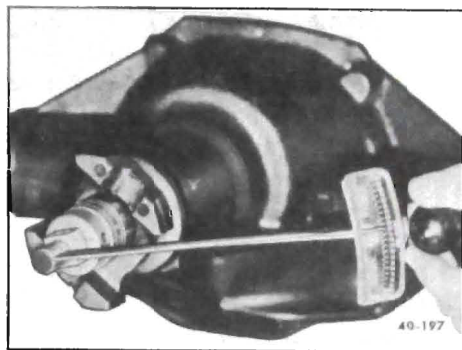

Figure 40-198 - Checking Pinion Preload
16. Install washer and new self-locking pinion nut on pinion. Tighten nut to remove pinion end play. When end play is removed, alternately tighten nut and check pinion preload until a torque of 20-25 lb.in. is required to rotate the pinion with new bearings and seal installed or 10-15 lb.in. when used parts are reinstalled. See Figure 40-198.
3. Rotate differential case assembly several complete turns to seat bearings. Check bearing preload using an inch pound torque wrench connected at pinion nut. Bearing preload should read 35-40 lb.in. of rotating torque with new bearings or 20-25 lb.in. of rotating torque with reused bearings. See Figure 40-198. If preload is not according to these specifications, increase shim thickness on each side .002" for each additional 10 lb.in. preload desired, or decrease shim thickness .002" on each side for each 10 lb.in. preload to be subtracted.